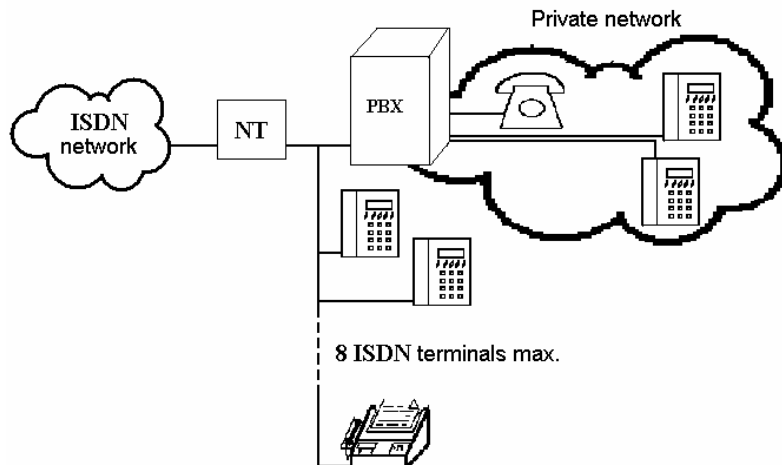

Fig. 18 - Point-to-Multipoint Connection
Point-to-Multipoint (EuroISDN with MSN) is another type of ISDN terminal interconnection. Here the network terminal (NT) is interconnected with up to eight ISDN terminals through a 4-wire passive bus as shown in Fig. 18.